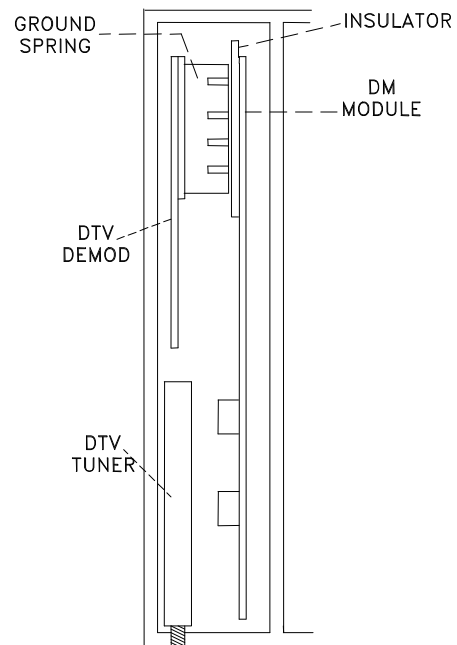

Figure 3: Checking new DM Operation
6. Check operation before installing the DM Cover, *Figure 3*.